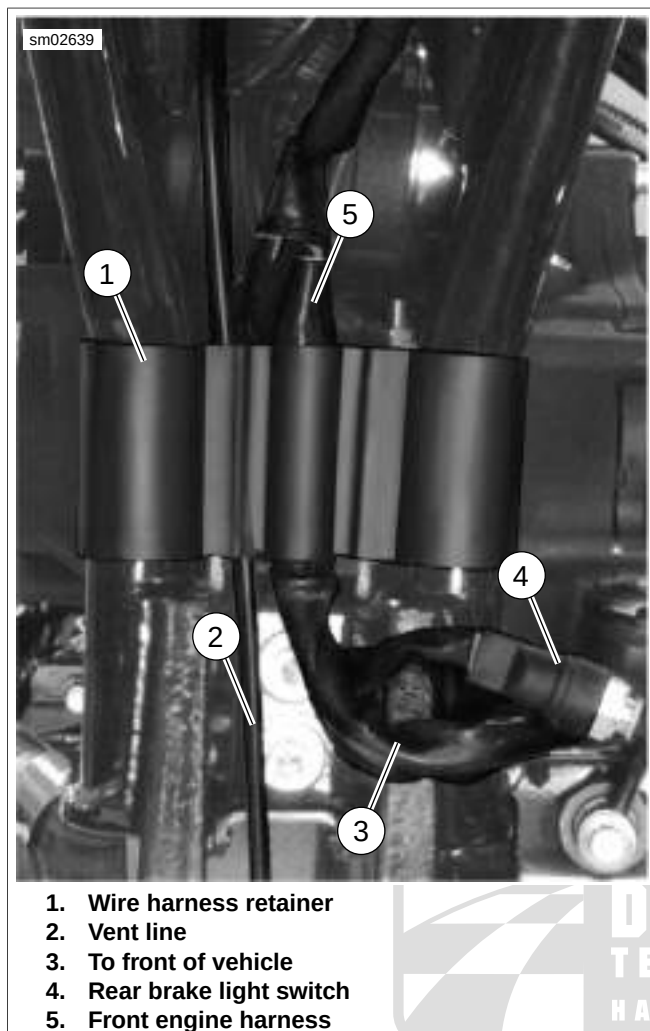

Figure 7-79. Main Wire Harness (Typical)
23. See Figure 7-79. Slide wire harness retainer up frame tubes. Remove harness retainer from frame and harness.
5. See Figure 7-79. Route engine harness (which contains voltage regulator connector [77], crank position sensor connector [79], stator connector [46] and front oxygen sensor [138] wiring to front of vehicle as shown. Install the oxygen sensor and crank position sensor connectors in front electrical caddy (see 7.17 CRANK POSITION SENSOR \(CKP\)). Connect the engine harness and stator connectors to the voltage regulator.
6. Route rear brake switch wiring (4) as shown and connect to rear brake switch.
11. Install wire harness retainer (1).
See Figure 7-79. To prevent contact with rear fork, front engine harness (5) and rear brake switch wiring must be secured in wire harness retainer (1).